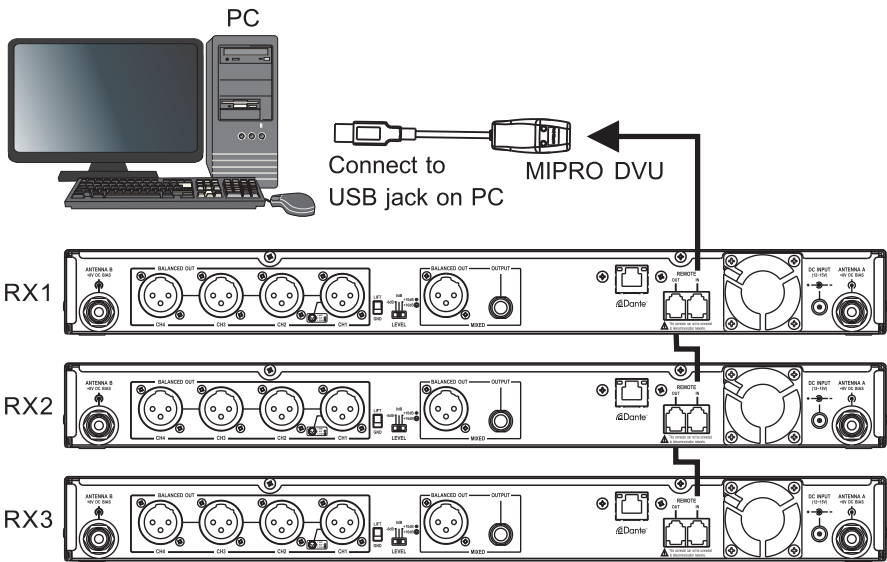
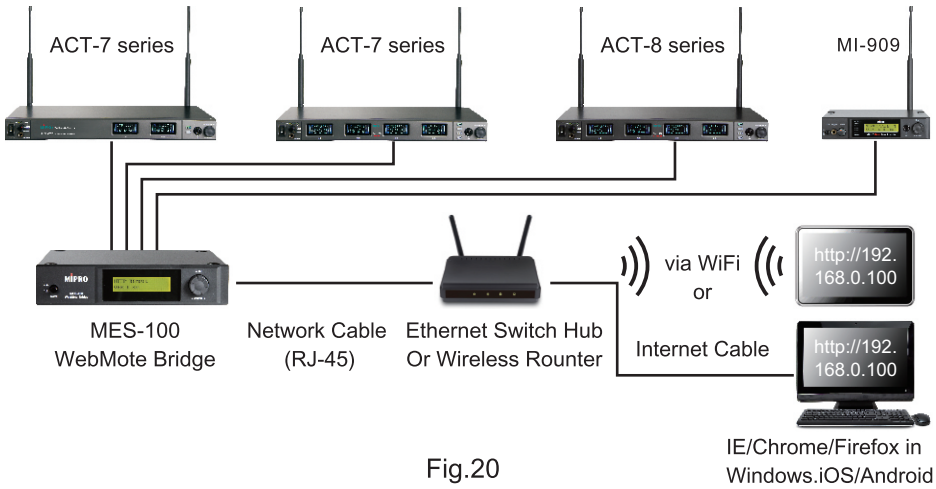

Fig.19
Fig.20
2. MIPRO DV Wiring Instructions, Fig. 19:
- (A) Use supplied hardware cable for serial connection to MIPRO receivers and PC network interface connector 16.
- (B) Next, use an USB connector to link receivers input interface connector via MIPRO DVU to a computer USB PORT.
- (C) Up to 64 receiver channels can be connected, remote-controlled and monitored.
- (D) The network cable length can be connected up to 300 meters, but the longer it is, the transmission quality will be more unstable. The ideal cable length for optimal transmission quality is less than 100 meters.
3. MES-100 Wiring Instructions, Fig. 20: (for optional MES-100)